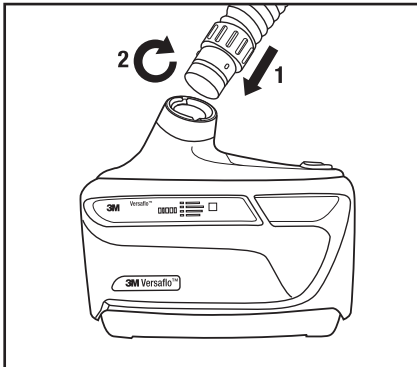

Fig. 10 – Installing breathing tube
1. Insert the end of the breathing tube with the bayonet fitting (two small prongs) into the parallel slots in the air outlet of the motor/blower (Fig. 10).